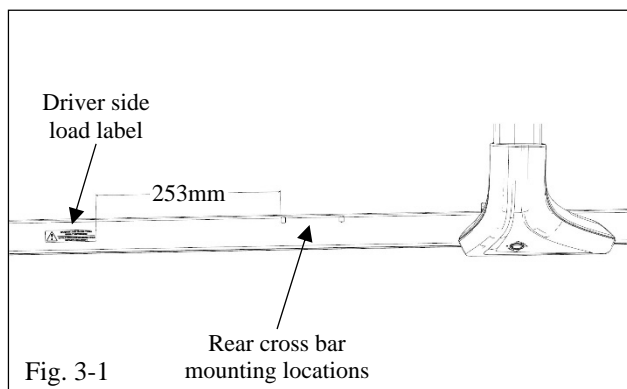

Fig. 3-1
- (1) Align the ball and socket joint and apply a slight force until the cover snaps into place.
- (2) Slide the top of the cover around the bar.
- (d) Place the label on the right hand side roof rail, 253mm from the rear crossbar's front mounting location hole (Fig. 3-1).